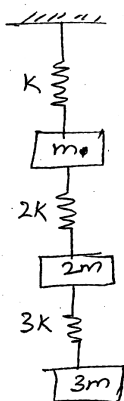

Fig 5. Q.10.
- 10. Find the natural frequency and mode shape for the system shown in Fig. 5 Q10 by Stodola's method. 20